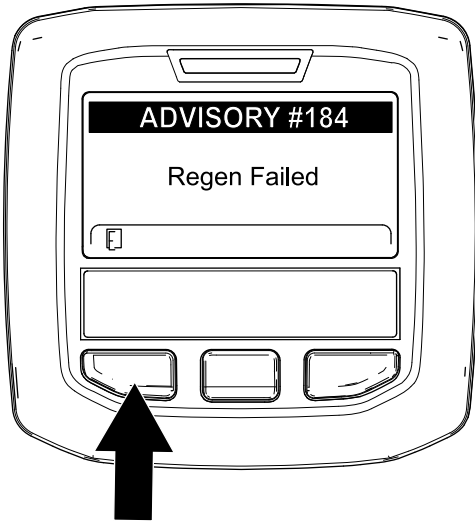

Figure 58
**Note:** If the regeneration fails to complete, the InfoCenter displays Advisory #184 (Figure 58). Press the left button to exit to the home screen.